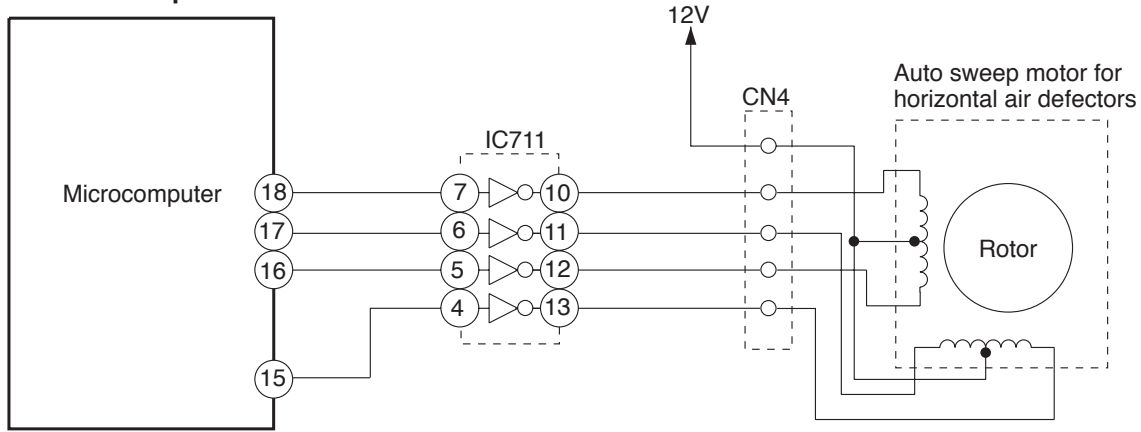
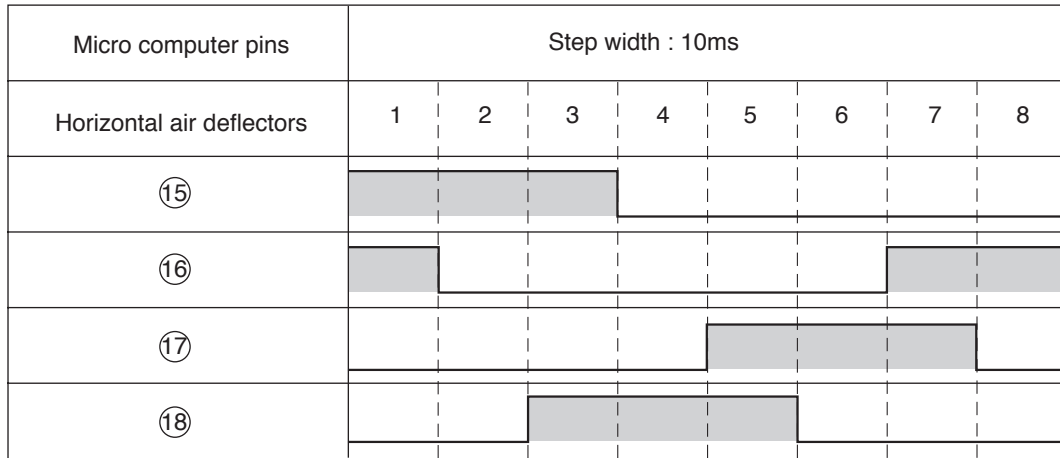

Fig.4-1
Fig.4-2 Microcomputer Output Signals
Fig. 4-1 shows the Auto sweep motor drive circuit; the signals shown in Fig.4-2 are output from pin ⑮~⑱ of microcomputer.
As the microcomputer's outputs change as shown in Fig.4-2, the coils of the auto sweep motor is excite to turn the rotor. Table 4-1 shows the rotation angle of horizontal air deflectors.